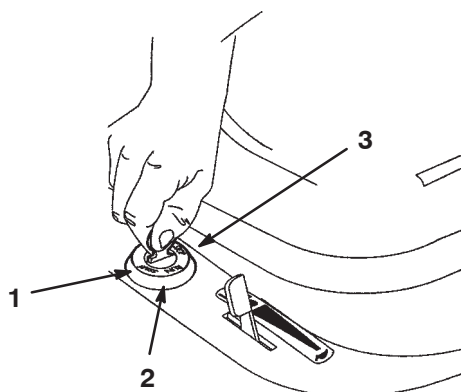

Figure 8
5. Turn the ignition key clockwise and hold it in the Start position (Fig. 8). When the engine starts, release the key.
2. Turn the ignition key to Stop (Fig. 8).